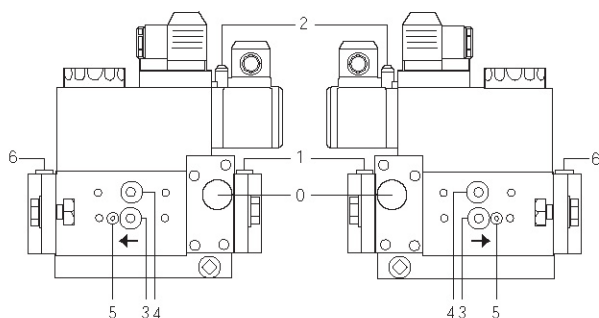
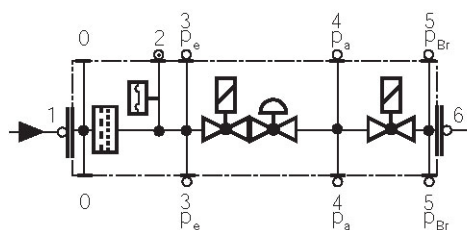

Fig. 40
Fig. 41
- Clean and examining the gas filter cartridge, if necessary replace it (Fig. 40 on).
- Change the filter if the pressure difference between pressure connection 1 and 3 (Fig. 40-Fig. 41) is  $\Delta p > 10$  mbar.
- Change the filter if the pressure difference between pressure connection 1 and 3 (Fig. 40-Fig. 41) is twice as high compared to the last check.